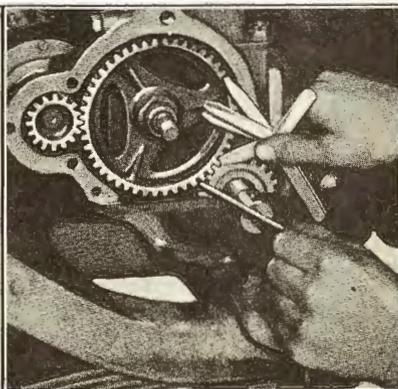
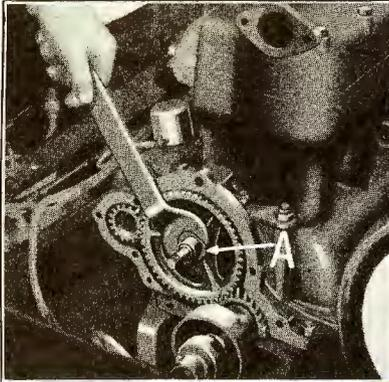
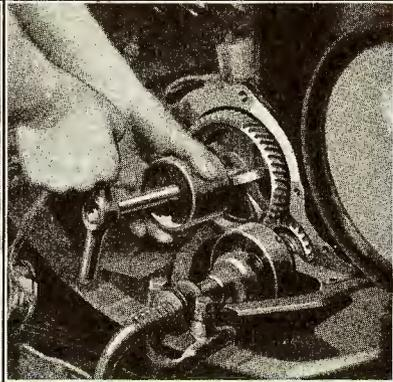
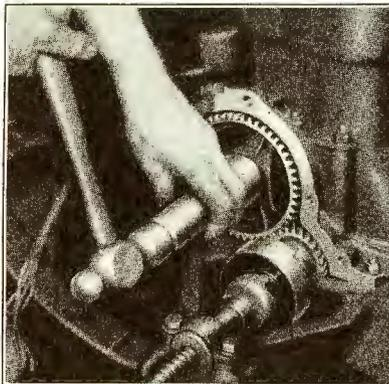

Fig. 269
Fig. 270
Fig. 271
Fig. 272
teeth as shown in Fig. 269. Try the gears at several points to find any high spots, i. e., a spot where the gear is tighter than at other points around the gear. If a high spot is found, both gears should be marked with a piece of chalk at that point and the large time gear then removed. The large time gear is removed from camshaft by running off the locknut (See "A" Fig. 270) and withdrawing gear from shaft with a gear puller as shown in Fig. 271. Examine both gears at points marked, for a burr (raised spot) on the teeth. If there is a burr on either gear, dress it off with a fine file and replace the large gear in its original position by driving it onto the shaft with a driver (See Fig. 272) then check the gears again. If no burr is found, replace gear on camshaft, turning it to a position opposite to the one in which it was originally meshed with the small gear, then check the play between the teeth of the gears. If the high spot still shows, the trouble is probably due to a sprung camshaft, and it will be necessary to remove and straighten the shaft as described in Chapter IX. If there is considerable play between the teeth around the entire circumference of the gears, the camshaft should be checked for a loose bearing; this can be done by inserting the brass bars between each side of camshaft gear and cylinder block and
- (h) The new gear is installed by slipping it over end of crankshaft with the script word "FORD" on gear facing out, lining up keyway in gear with key in shaft. The gear is driven onto shaft with a driver, in the same manner as the large time gear was installed (See Fig. 272).
- (i) Replace large time gear by driving it onto camshaft with a driver as shown in Fig. 272, making sure that the tooth marked "FORD" on the small time gear meshes between the two teeth on the large gear at the point marked zero (0). After gear has been installed run down camshaft gear lock nut, drawing nut down tightly.